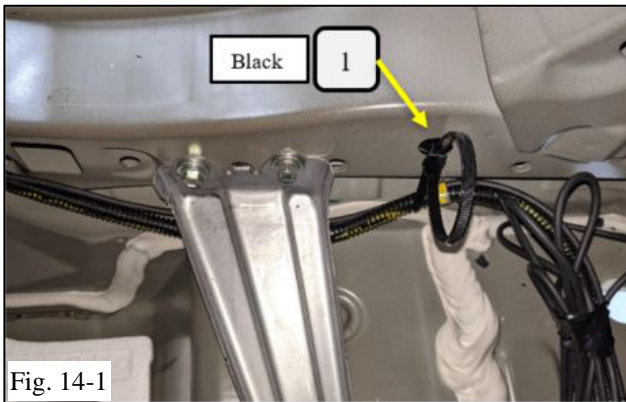
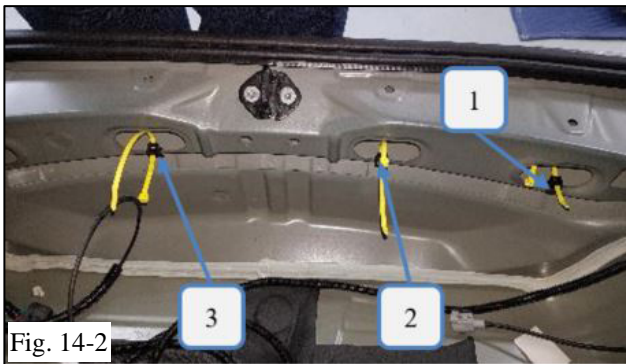

Fig. 14-1
Fig. 14-2
(1) Route Branch to RH RR Comb Lamp Assy wire along vehicle Body Lower Back, Panel Subassembly.
(2) Loosely position the Bite Clamps (item #7 in the Hardware Bag kit) and Push Mount Clips (item#6 in the Hardware Bag kit) on the vehicle body as shown (Fig. 14-1, Fig. 14-2, Fig. 14-3).